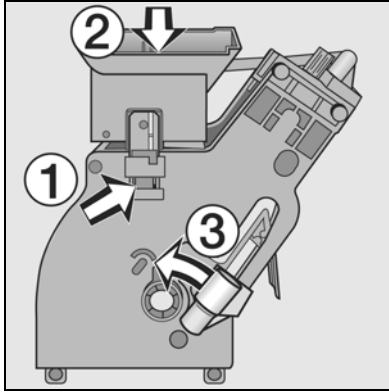

Figure 5-27: Moving the Brew Unit to the Home Position
1. Press on the latch (Figure 5-27, Item 1) and press the funnel down (Figure 5-27, Item 2).
2. Push the connection piece to the far left position (Figure 5-27, Item 3).